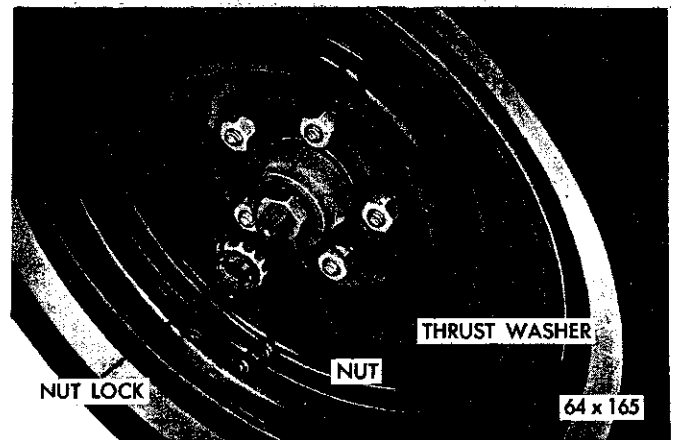

Fig. 17—Front Wheel Bearing Installation
(1) Tighten the wheel bearing adjusting nut to 90 inch-pounds torque while rotating the wheel.
(2) Position the nut lock on the adjusting nut so one pair of the cotterpin slots aligns with the hole in the spindle (Fig. 17).
(3) Back off the adjusting nut and lock assembly to the next slot, and install the cotterpin.
(4) Clean the lubricant cap, coat the inside with wheel bearing lubricant (do not fill) and install the cap.
(5) Install the wheel, tighten the wheel nuts to 65 foot-pounds torque and install the wheel cover.